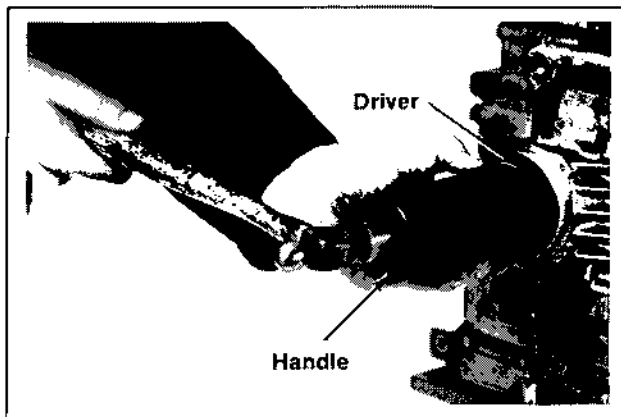

Figure 11-24. Installing Oil Seal Using Driver.
2. Using the #11795 handle and appropriate seal driver, install the front oil seal to a depth of $1/32''$ ($+3/64''$; $-1/64''$). Refer to Figure 11-24.
6. Using the #11795 handle and appropriate seal driver, install the rear oil seal to a depth of 5/32" (+3/64"; -1/64"). Refer to Figure 11-24.